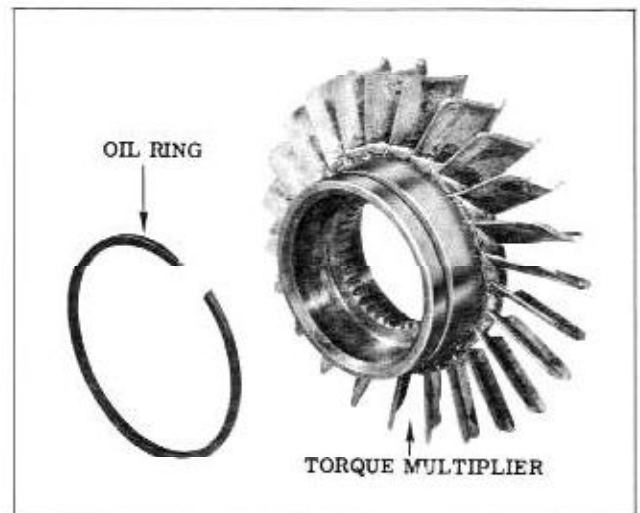

Fig. 3-118 Torque Multiplier Oil Ring
2. Install lock type oil ring on torque multiplier hub, if removed. (Fig. 3-118)